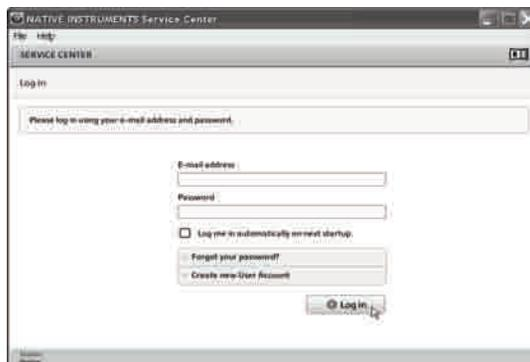

Figure 4.24
3. Please log in using your e-mail address and password and click **Log in**. (Figure 4.24)